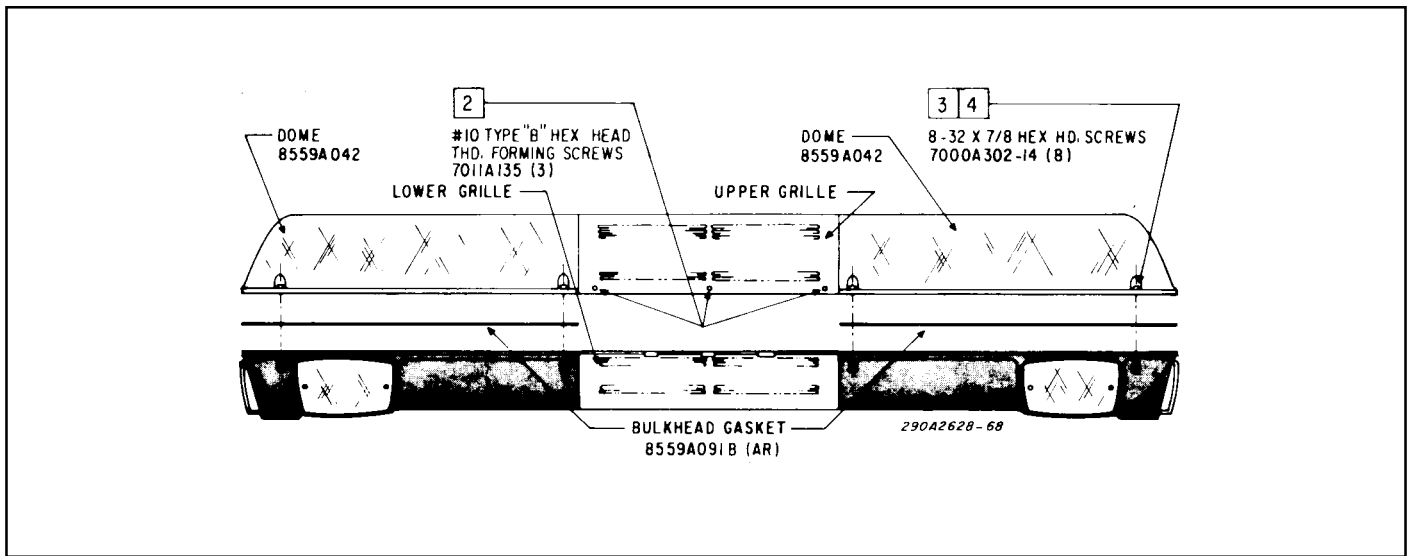

Figure 1.
2. See figure 1. Remove the three #10 hex head screws from the rear of the upper grill. Remove the upper grill.
3. See figure 1. Remove the eight #8-32 x 7/8" hex head dome screws (four per dome).